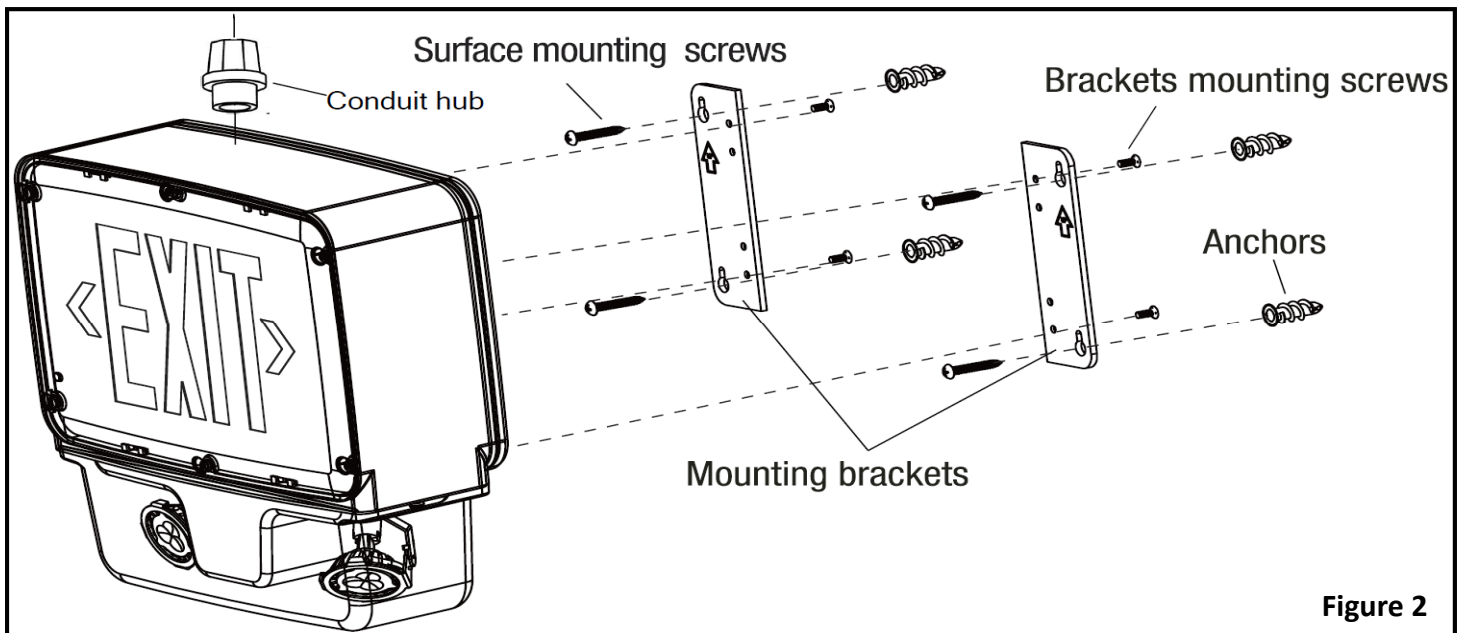

Figure 2
2. Mount the (2) surface mounting brackets provided onto the backplate and secure using the four #7-21x3/8" Flat head screws provided (Figure 2).
3. Place the housing on the required surface. Drill (4) mounting holes on the wall, using the mounting bracket holes as a drilling template. Tap in using a mallet, the four screw anchors into the holes (Figure 2).
4. Remove the (6) plastic caps, (6) screws and (12) O-rings from the EXIT lens and set aside.